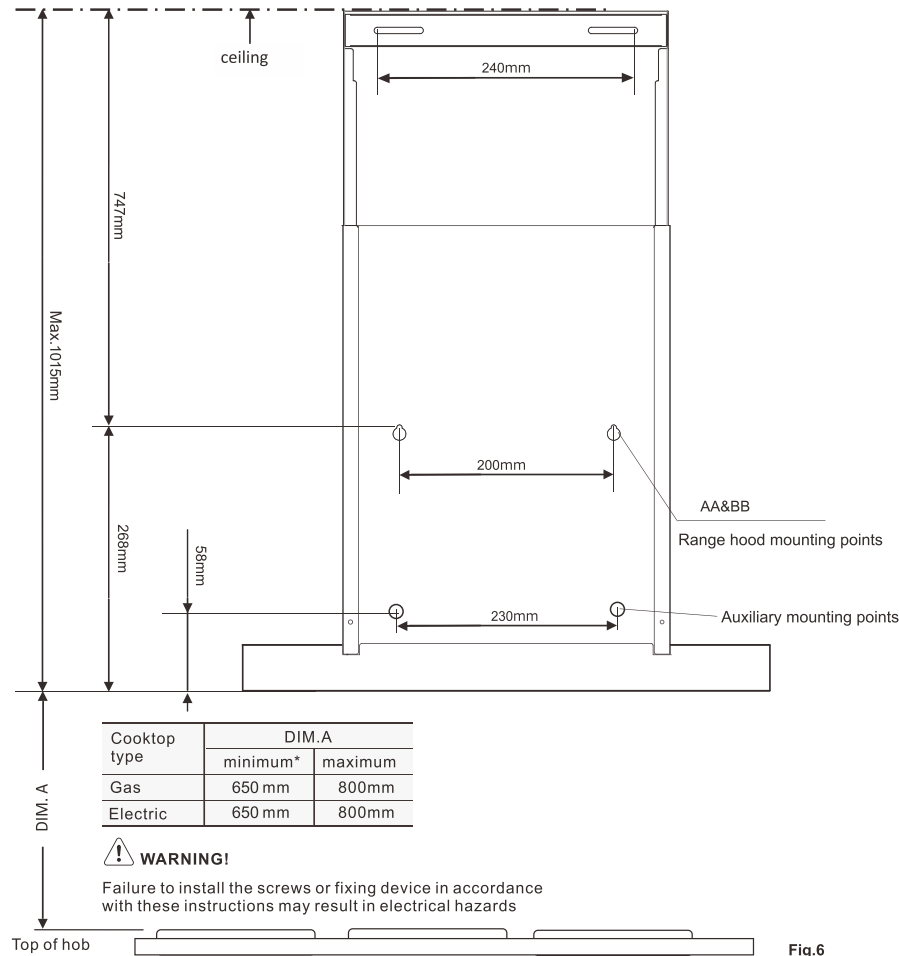

Fig.6
- Mark the location for flue cover wall mounting brackets and cooker hood mounting points above the hood base as the reference point (Fig.6).